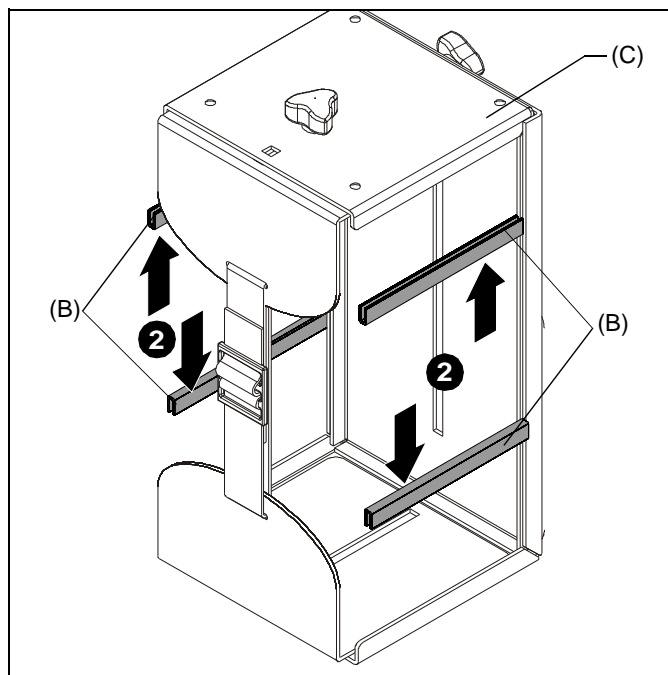

Figure 1
2. Place four strips of protective rubber edging (B) over the sharp edges located on the top and bottom of the CPU mount (C). (See Figure 1)